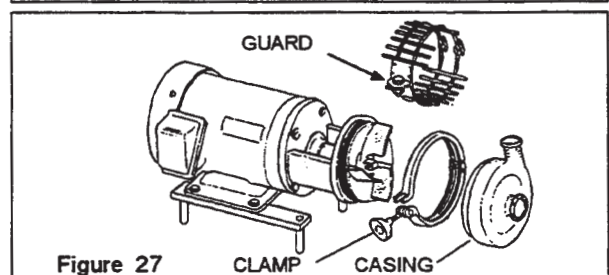

Figure 27
- Place the casing over the impeller/backplate, close and tighten the clamp. (Figure 27)